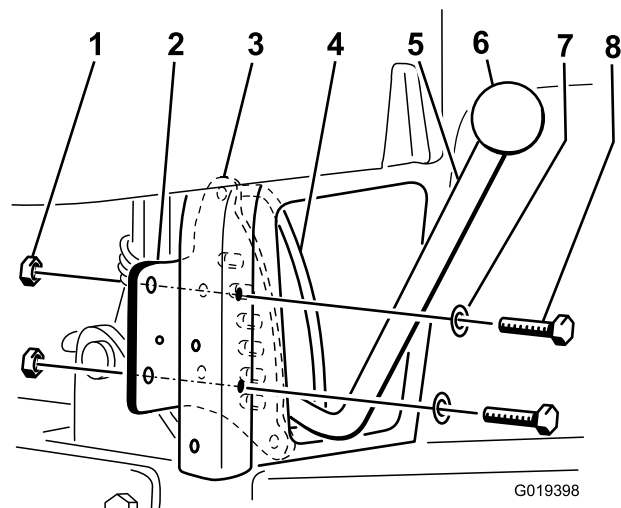

Figure 3
Note: The handle should pass between the detent plate and the handle guide (Figure 3).
7. Install the detent plate to the back of the right rear vertical frame tube with 2 bolts (5/16 x 2-1/4 inch), 2 washers, and 2 locknuts (5/16 inch) (Use the washers and locknuts removed in step 4). Position the parts as shown in Figure 3.)
8. Thread the knob onto the lift handle (Figure 3).